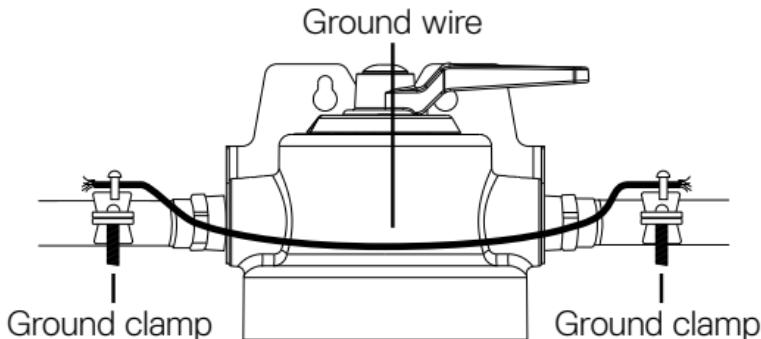

Figure 3
5. When installing on metallic plumbing: Securely install two grounding clamps and a #4 copper wire across the location where the system will be installed, tightly clamping it at both ends as shown in figure 3 (next page.)